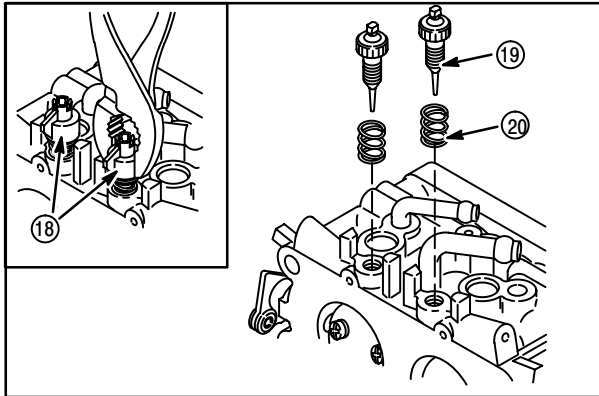

Fig. 65
9. Remove idle mixture screws (19) and springs (20), **Fig. 65**.
NOTE: If idle mixture screws are equipped with adjustment limiter caps, remove the caps (18) BEFORE removing idle mixture screws, inset, Fig. 65.